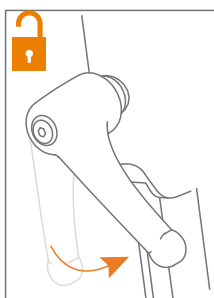
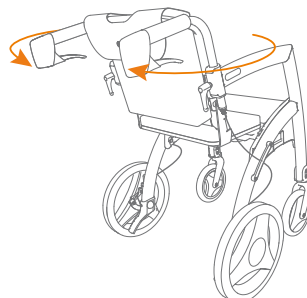
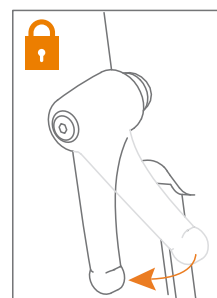

Figure 36: Loosen the adjustment handles.
Figure 37: Turn handles.
Figure 38: Tighten the adjustment handles.
- d. Loosen the adjustment handles anticlockwise (**Figure 36**) and turn the handles around via the outside, until they are pointing towards the back (**Figure 37**). Adjust the height for the person pushing the electric wheelchair and turn the adjustment handles clockwise to tighten (**Figure 38**). See **Adjusting the height for correct posture**.